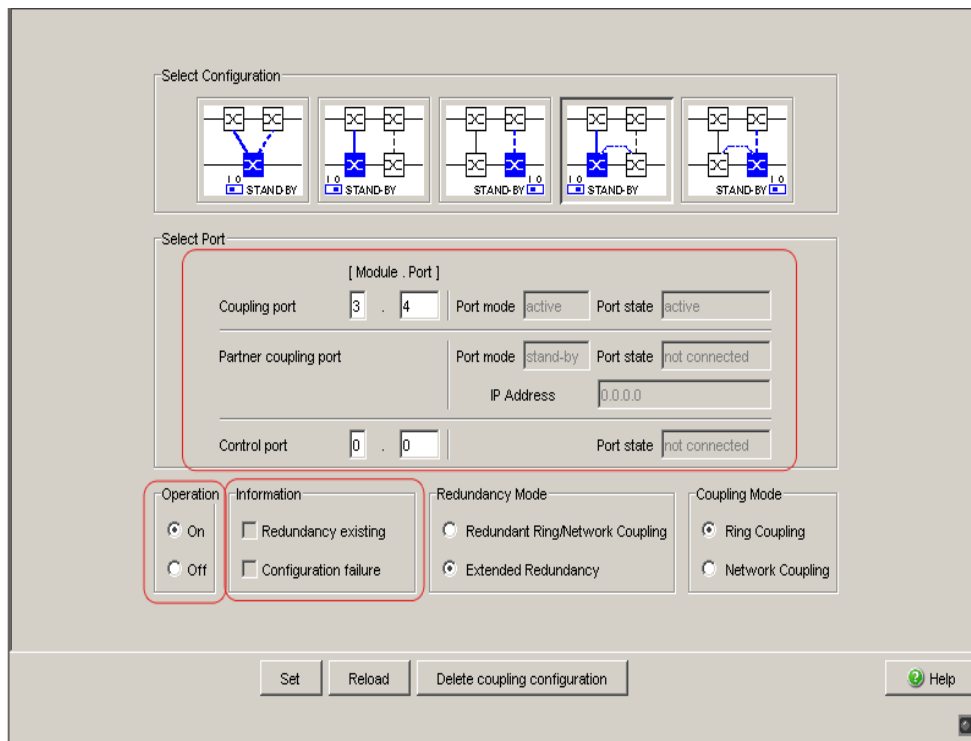

Figure 38: Two-Switch coupling with control line: Selecting the port and enabling/disabling operation
- Select the coupling port (see figure 38).
- Select the control port (see figure 38)
- Activate the function in the “Operation” frame (see figure 38)